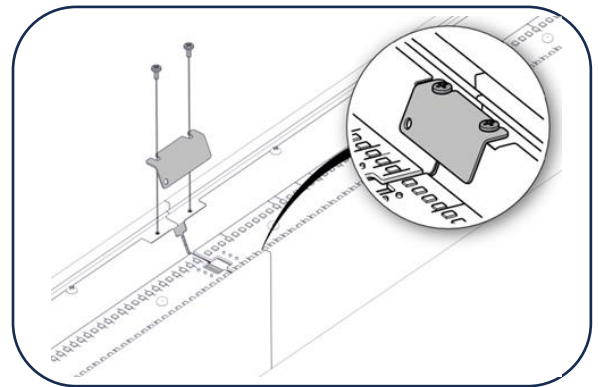

Figure 7
23. Install the **Center Support Brackets** using the provided thread-forming screws. [Figure 7]